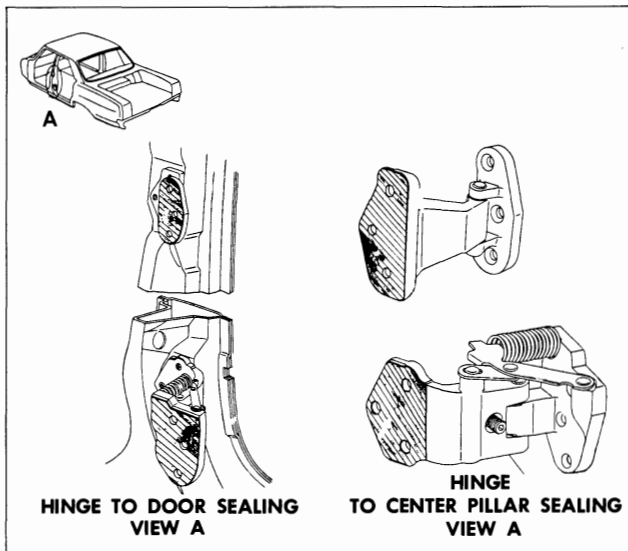

Fig. 12-38
2. As an anti-squeak precaution and to prevent entry of water at hinge attaching locations, apply a coat of heavy bodied sealer to attaching surfaces of hinges (Fig. 12-38).